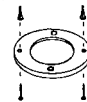

FIGURE 1
3. After selecting the proper smoke alarm location as described in Section 1, attach the mounting plate to the ceiling as shown in Figure 1. For wall mounting see Figure 2. Place mounting plate on the wall. Be sure the "UP FOR WALL MOUNTING" text and arrow are facing up. Use the screws and anchors provided to secure the mounting plate.
To replace the battery, remove the alarm from the mounting plate by rotating the alarm in the direction of the "OFF" arrow on the cover (see Section 3, Figure 1).